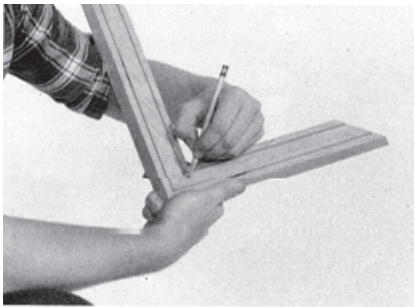

Fig. 7
3. Place "X" on inside face of corners. This identifies stock for future cuts (see Fig. 7).